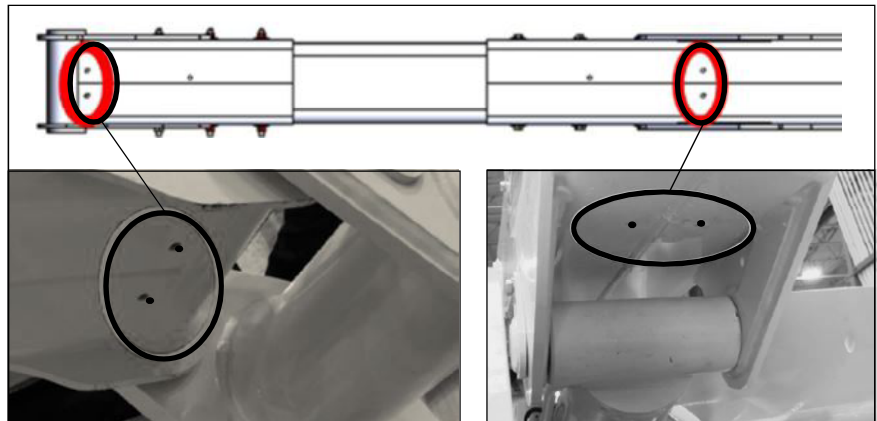

Figure 5 — Drain Hole Location
7. Inspect the articulating arm drain holes on the bottom of the arm (refer to Figure 5) to be sure the holes are not plugged. Remove any sealant or contaminants that seal the holes using a $\frac{5}{16}$ " drill bit.